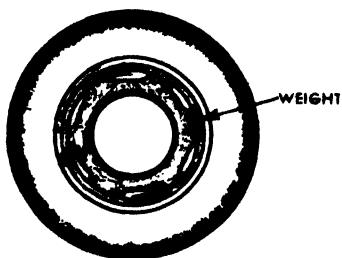

FIG. 82. BALANCING WEIGHTS OF AUTOMOBILE WHEEL.
11. Weights are sometimes placed on automobile wheels as shown in Fig. 82. a) What caused the wheel to need weights? .....